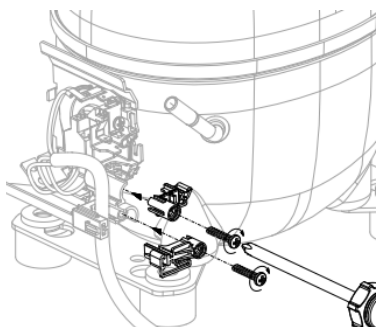

Figure 3.8: Step 5 - Insert and screw the cable clip and complete electrical cables fastening
- Fasten the screws shown in Figure 3.8 with a torque of 0.7 - 1.2 Nm (± 0.2).